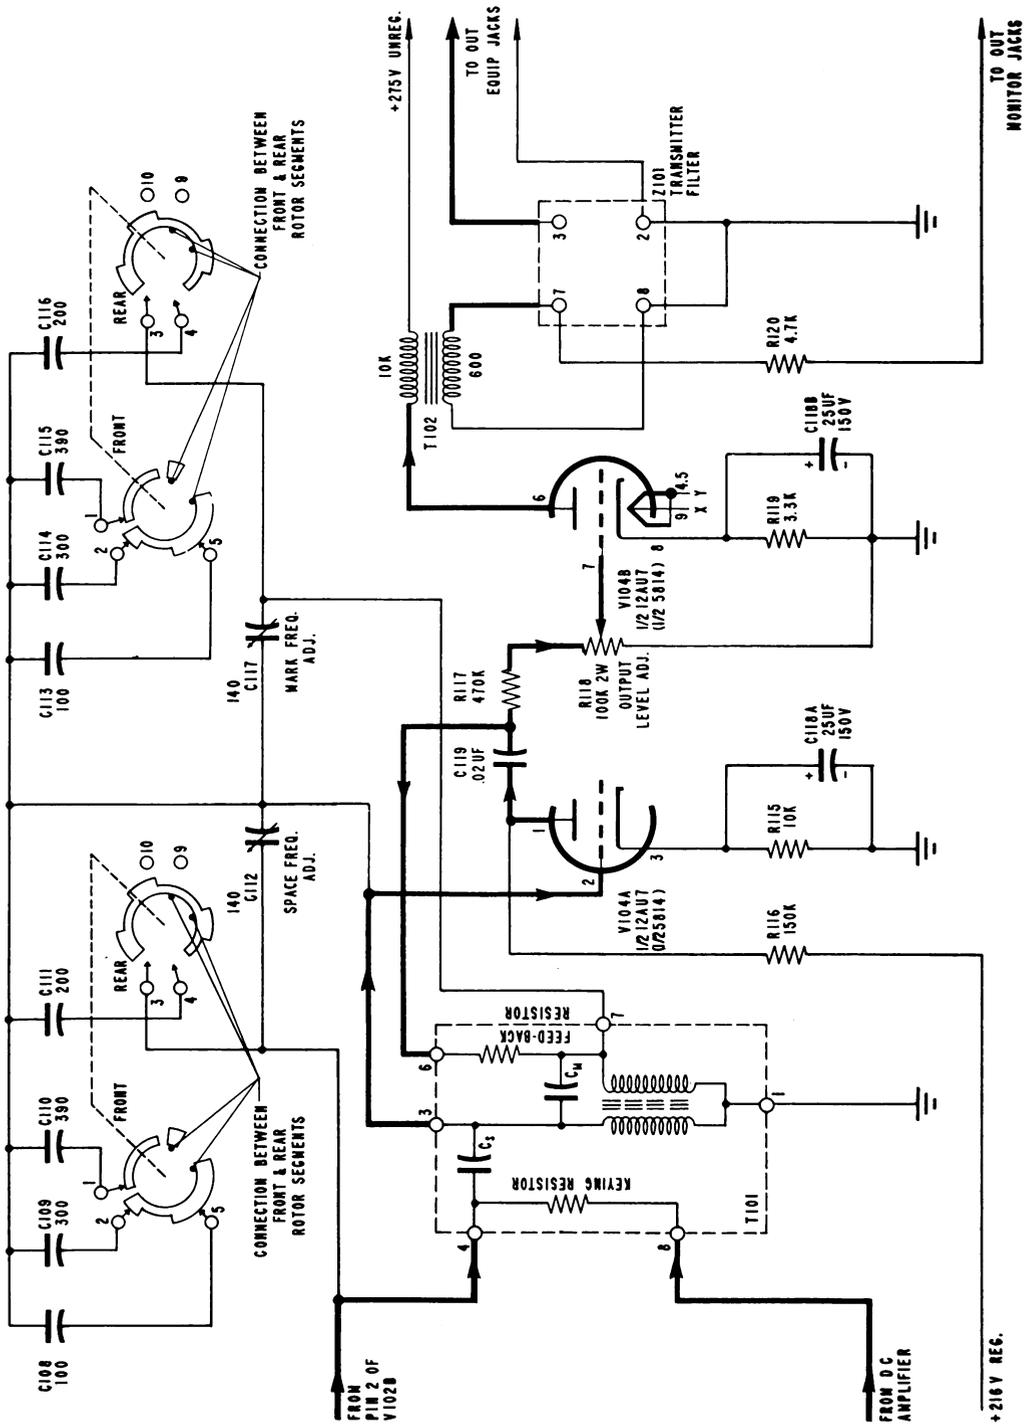

Figure 2-6. Schematic Diagram of Carrier Oscillator and Output Circuits
- Figure 2-6 shows a schematic diagram of the carrier oscillator and output circuit. The MARK and SPACE pulses on the clamping diode V102B control the frequency of the oscillator by disconnecting and adding a capacitor  $C_s$  to the tuned LC of the oscillator. Under a MARK signal the SPACE capacitor  $C_s$  of the audio-frequency transformer T101 is electrically disconnected from the tuned oscillator circuit by the high impedance of the diode. Under SPACE signal the capacitor  $C_s$  is grounded through the diode and appears across a portion of the coll. With a MARK signal applied to the loop the value of the MARK tuning capacitor  $C_m$  is trimmed with fine and coarse MARK FREQ ADJ controls (C117 and S106 with C113, C114, C115, and C116) for oscillation at the MARK frequency. With a SPACE signal applied to the loop the SPACE capacitor  $C_s$  is trimmed with fine and coarse SPACE FREQ ADJ controls (C112 and S105 with C108, C109, C110, and C111)